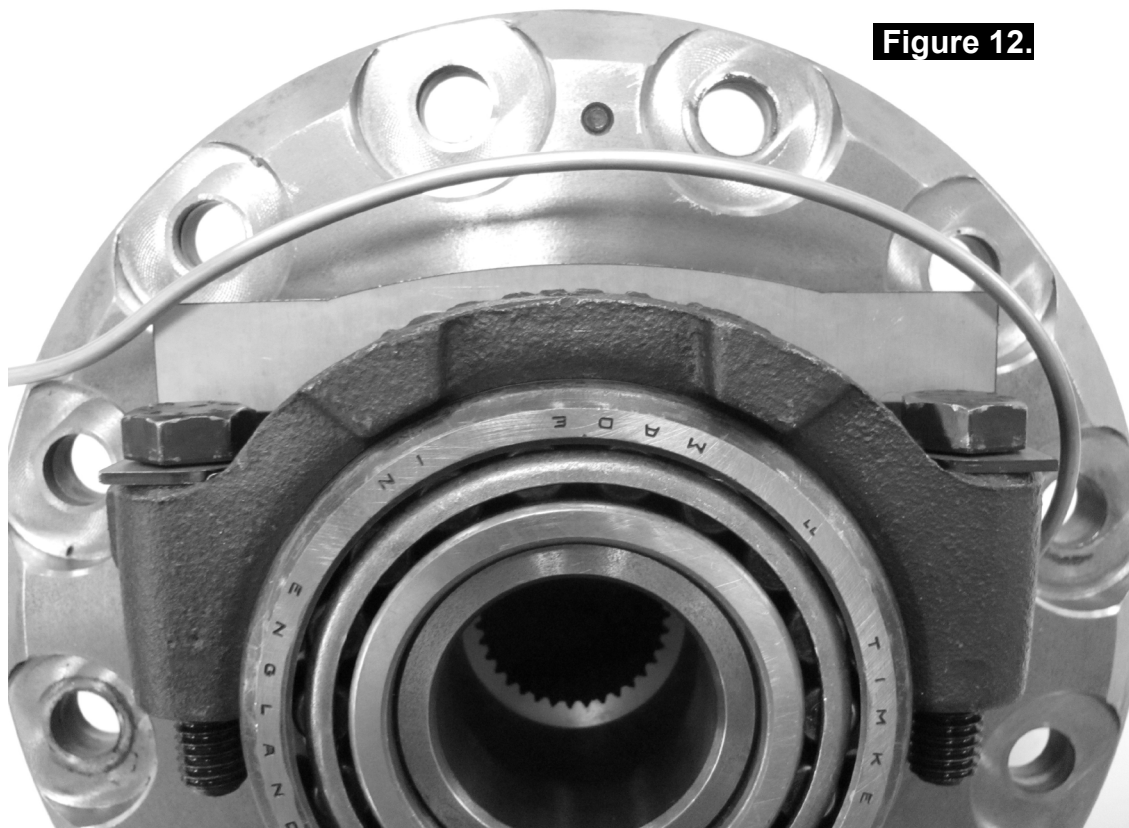

Figure 12.
- ☐ Without using sharp, jagged tools such as pliers (usually your hands are the best tool for this job), gently bend the seal housing tube so that it follows the profile as shown in Figures 12 & 13.